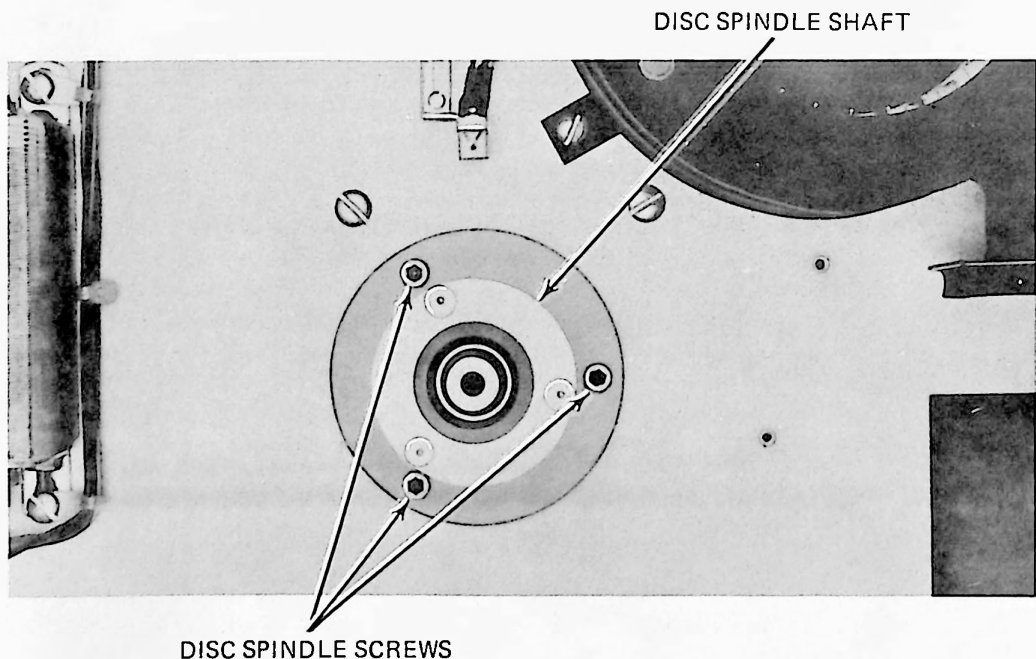

Figure 3-33. Fixed Disc Removal; Disc Spindle Mounting Screws
8. Using 5/32-inch allen wrench, remove three screws securing the disc spindle assembly to the chassis (figure 3-33).